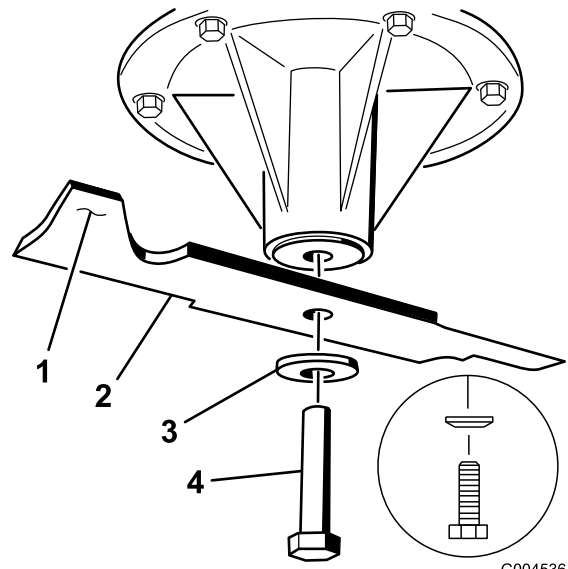

Figure 79
2. Remove the blade bolt, the curved washer, and the blade from the spindle shaft (Figure 79).
3. If the blade is not balanced, file some metal off the end of the sail area only (Figure 79).